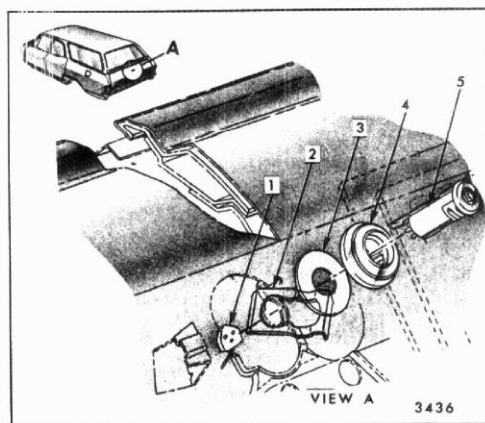
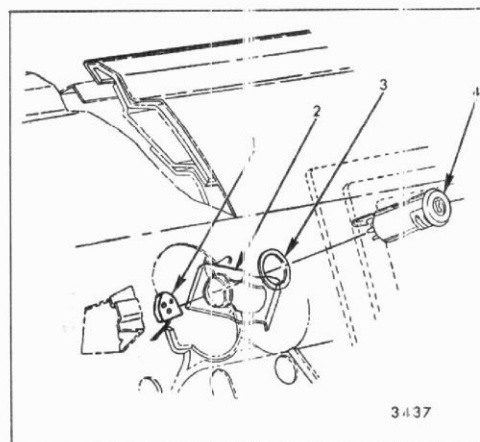

Fig. 9-11-Dual Gate Electric Key Switch and Cylinder Removal - "A" Body
Fig. 9-12-Dual Gate Electric Key Switch and Cylinder Removal
4. Slide retainer free of key switch and remove switch (See Figure 9-11 for "A" body styles and Figure 9-12 for "B" body styles).